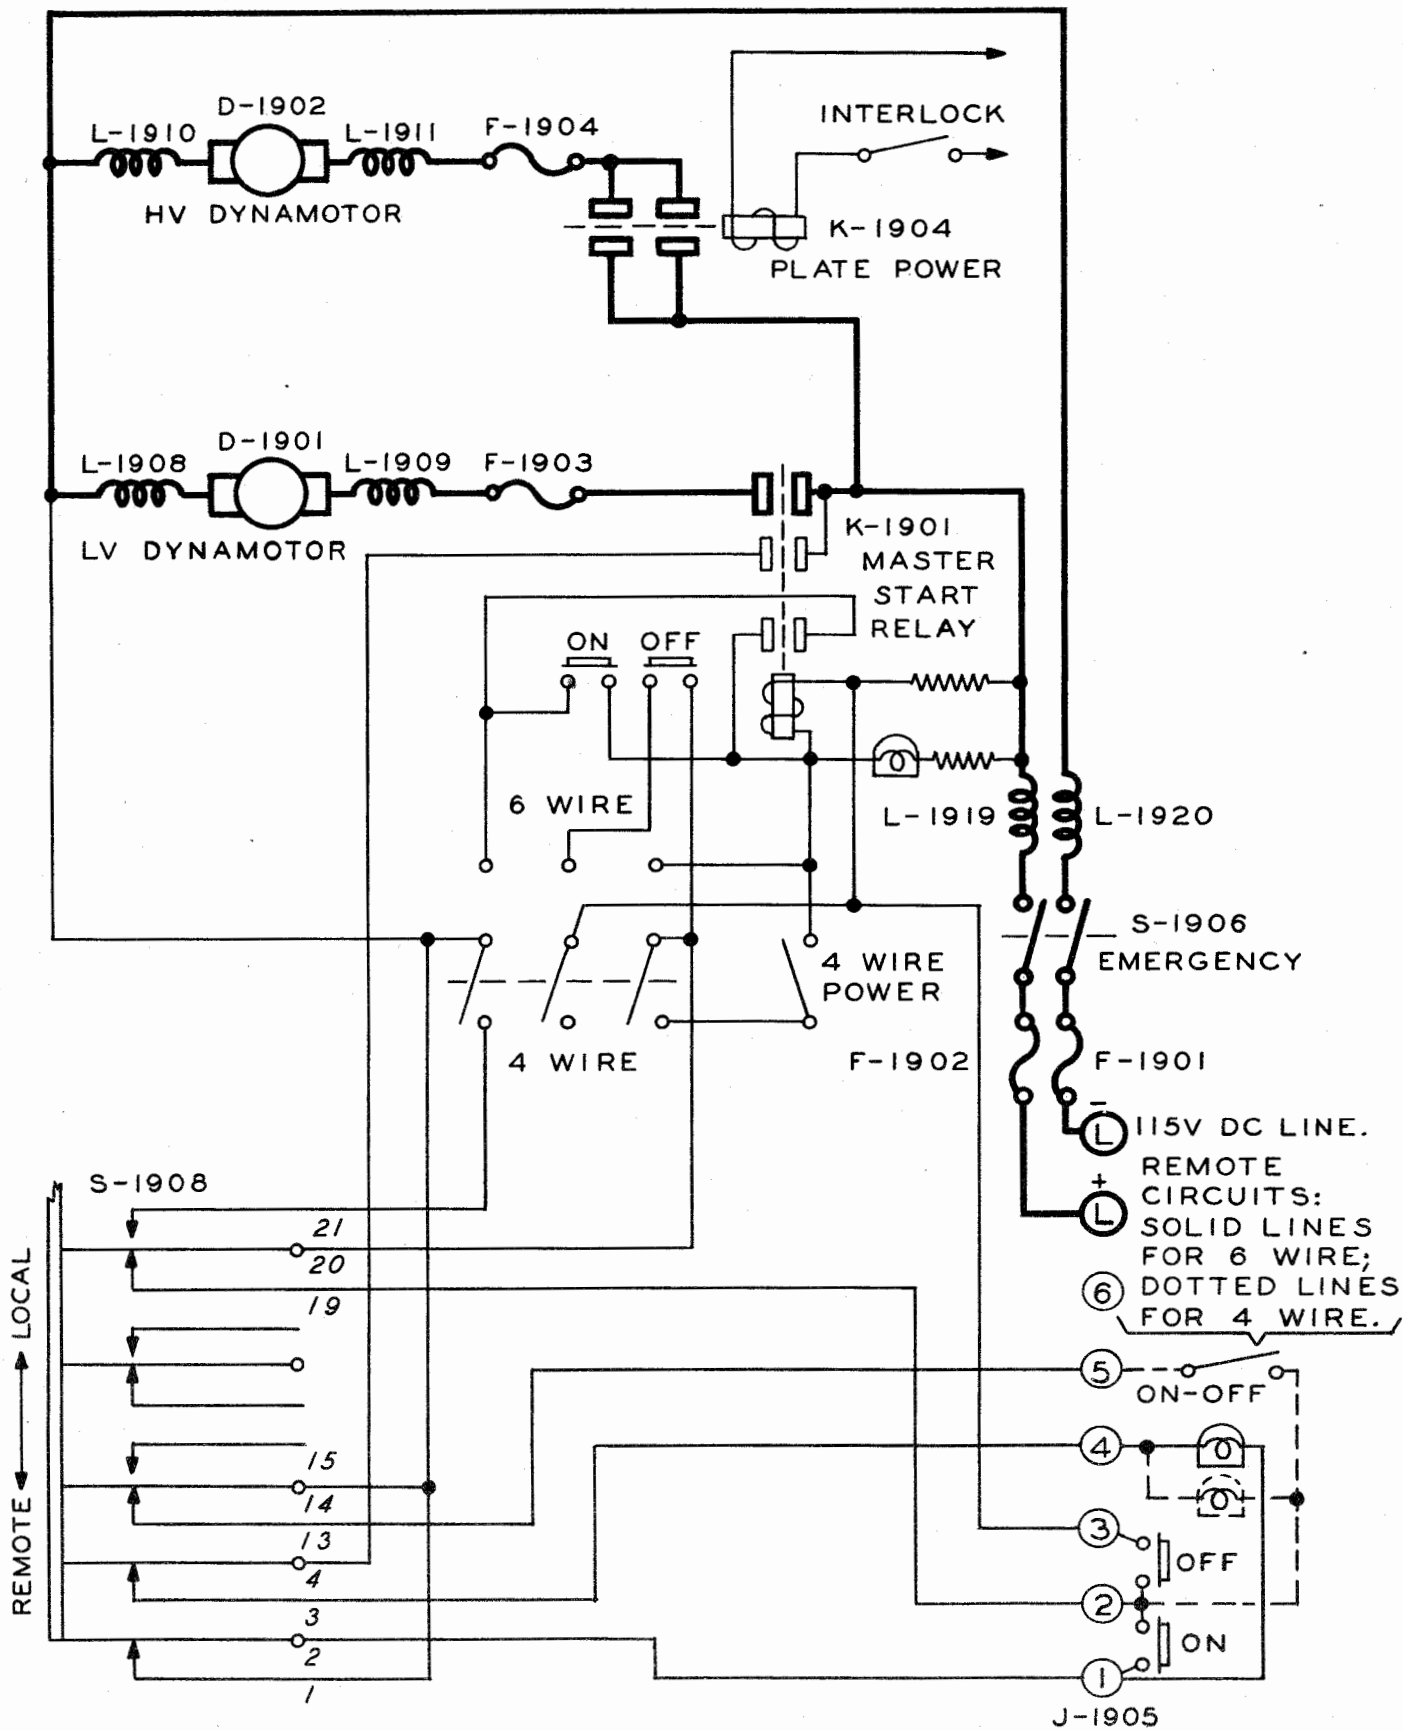

Figure 4-1 Primary Power Circuits
a. PRIMARY POWER CIRCUITS. (See figures 4-1) - The primary power circuits are the circuits necessary for excitation of the two dynamotors which furnish all plate, filament and relay power for the Navy Type -52286-A Radio Transmitter Unit as well as 14 v DC for Standard Navy Telephone Circuits.
The circuits described in the following paragraphs are for the purpose of operating the plate power relay K-1904. The operation of this relay applies primary power to the high voltage dynamotor which supplies plate power for the transmitter tubes. See figure 4-1. Plate power relay K-1904 is energized from the 28 v DC output of the low voltage dynamotor by various methods as described in the following paragraphs. See figure 4-6. In this illustration, plate power relay K-1904 is located at the extreme right hand edge of the drawing. The following operations will energize the coil of K-1904: